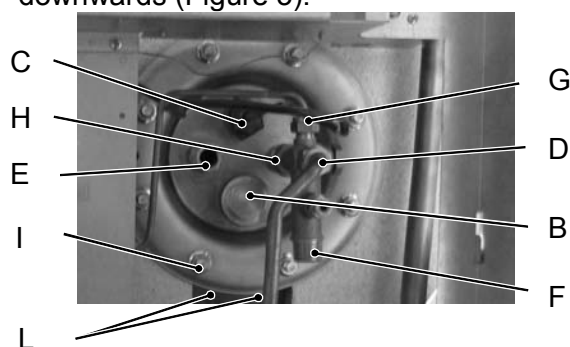

Figure 3
- 3) Loosen the connection B and pull the anode downwards (Figure 3).